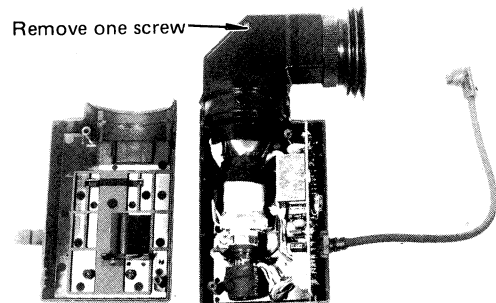
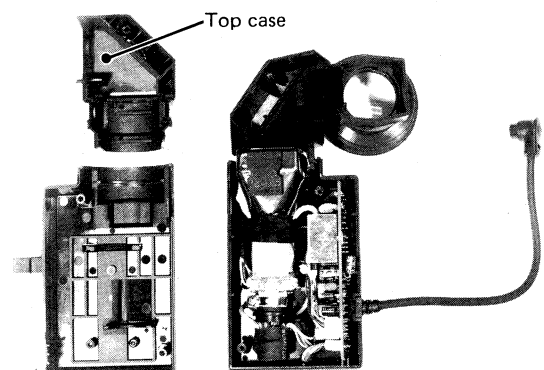

Fig. 3-4-1
Fig. 3-4-2
- Remove one screw on upper side of CRT case and remove the case. (Fig. 3-4-1, Fig. 3-4-2)